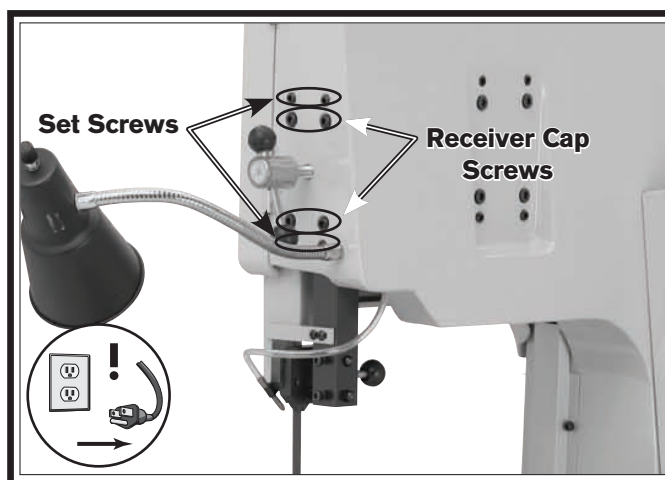

Figure 43. Guide post alignment controls.
6. Using a 6mm hex wrench, loosen the four guide post receiver cap screws (**Figure 43**).